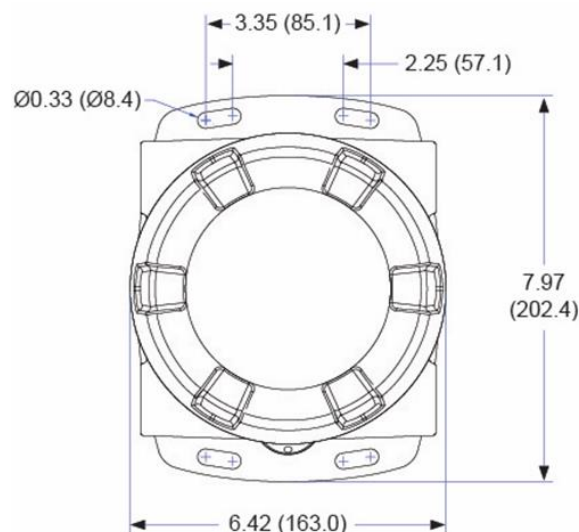
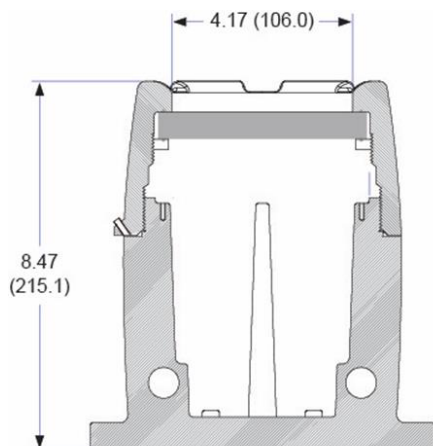

Figure 1. Enclosure Dimensions – Front View
Figure 2. Enclosure Dimensions – Side Cross Section View
Refer to *Figure 1* and *Figure 2* below.
- Prepare a section of wall approximately 7" x 8.5" (178 mm x 216 mm) for meter mounting by marking with a pencil the mounting holes (shown in *Figure 1*) on the wall.
- Select the appropriate mounting screws for the mounting surface to be used. The mounting holes diameter is shown on *Figure 1*.